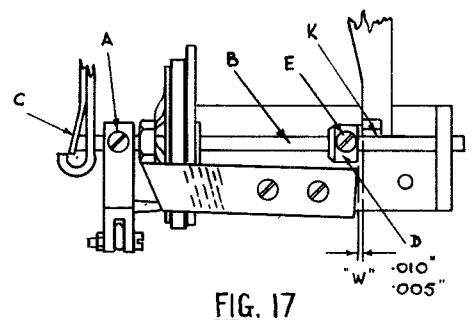

FIG. 17
29. STARTER SWITCH CONTROL UNIT:- WITH WEIGHT-ARM PIN FULLY ENGAGED IN A HOLE & THE ARMATURE AT "MARK" (FIG. 17) ADJUST THE SCREW E SO THAT THE SPINDLE B JUST TOUCHES THE SPRING C (FIGS 17 AND 18).
30. ADJUST THE COLLAR D BY SCREW E (FIG. 17) TO SATISFY DIMENSION "w" WITH ARMATURE AT "MARK"
32. CHECK THAT WHEN WEIGHT-ARM IS IN ITS LOWEST POSITION, THE SPRING K (FIGS 17 AND 20) WILL MOVE IN THE SLOT OF COLLAR D. ADJUST BY PUTTING A SET IN THE LEVER H (FIG. 20). THE WEIGHT ARM PIN MUST FALL CLEAR OF THE SHROUD.